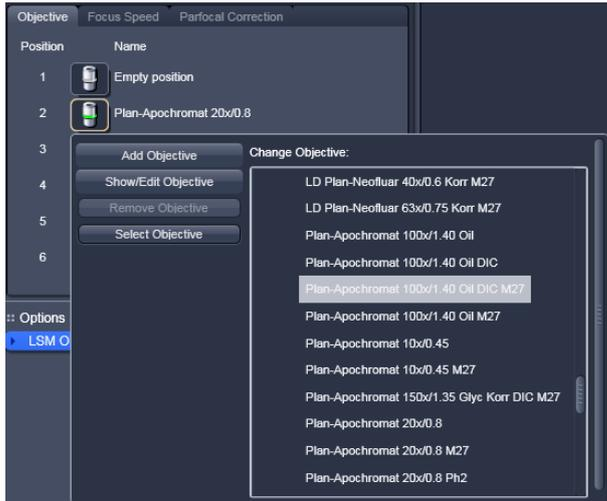

Fig. 151 Add Objective window – Potential Objectives
- Click on the **Add Objective** button on the **Change Objective** window (Fig. 151).